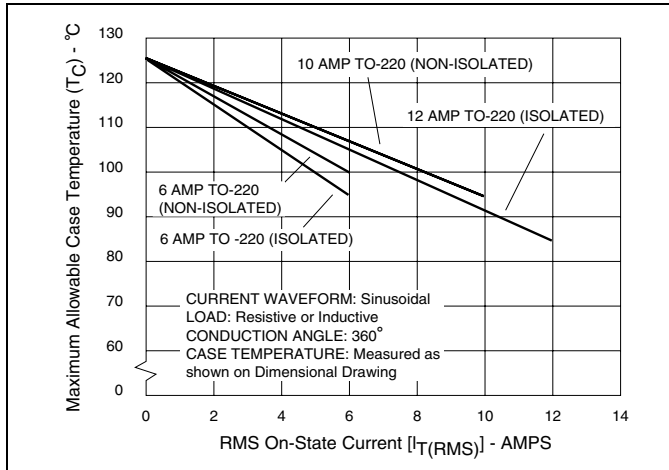
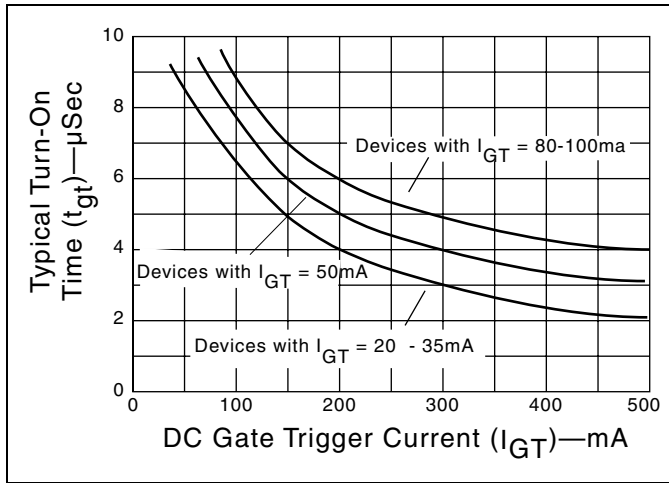
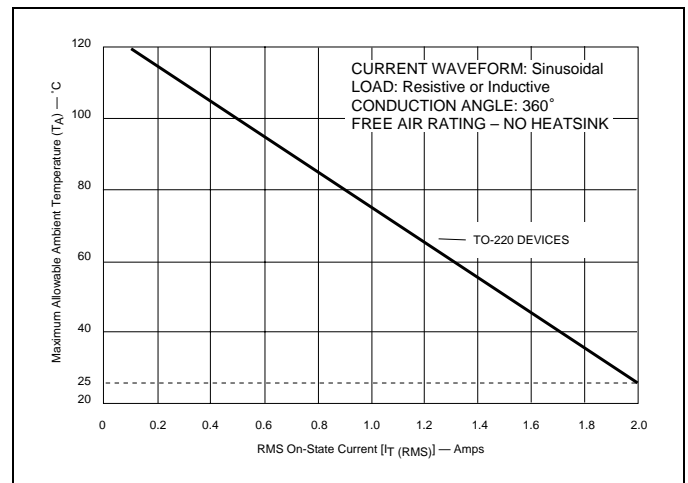

Figure 4.1 Maximum Allowable Case Temperature vs On-State Current (6-12 Amp Devices)
Figure 4.12 Turn-On Time vs Gate Trigger Current (Typical)
Figure 4.16 Maximum Allowable Ambient Temperature vs On-State Current
- (1) For either polarity of MT2 with reference to MT1 terminal.
- (2) For either polarity of gate voltage (V_{GT}) with reference to MT1 terminal.
- (3) See Definition of Quadrants.
- (4) See Figures 4.1 through 4.4 for current rating at specific operating temperature and Figure 4.16 for free air rating (no heat sink).
- (10) See Figure 4.12 for t_{gt} vs I_{GT} .
- (11) See package outlines for lead form configurations. When ordering special lead forming, add type number as suffix to part number.
- (12) Initial on-state current = 400 mA(DC) for 16-40A devices and 100mA for 6-12 Amp devices.
- (13) See Figures 4.1 through 4.4 for maximum allowable case temperature at maximum rated current.
- (14) Pulse width $\leq 10\mu s$.
- (15) For 6-12 Amp devices, $R_L = 60\Omega$; 16 Amp and above, $R_L = 30\Omega$
- (16) 40 Amp pin terminal leads on K package can run 100°C to 125°C.
- (17) Alternistor does not turn on in Quadrant IV.
- (18) $T_C = T_J$ for test conditions in off-state
- (19) $I_{GT} = 200$ mA for 6-12 Amp devices and 500 mA for 16-40 Amp devices with gate pulse having rise time of ≤ 0.1 microsecond.